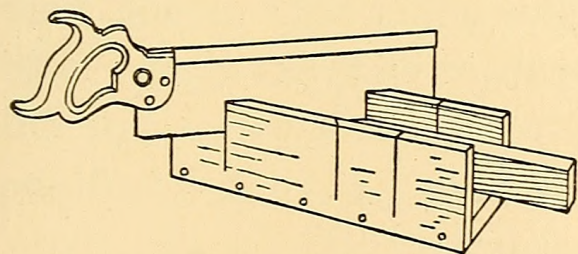

FIG. 59. — Home-made Miter-box.
**A Home-made Miter-box** such as the average carpenter makes for his own use (Fig. 59). This box may be